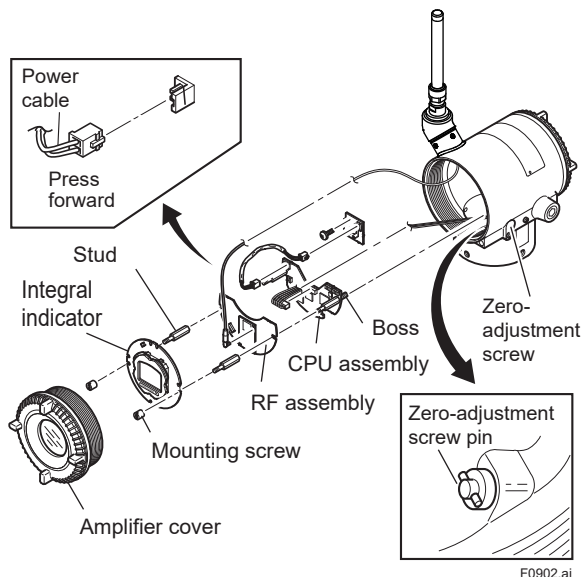

Figure 9.2 Removing and Attaching Integral indicator, RF assembly and CPU Assembly
This subsection describes the procedure for replacing an integral indicator. (See figure 9.2)
This subsection describes how to replace the RF assembly (see Figure 9.2).
This subsection describes how to replace the CPU assembly (see Figure 9.2).
- 2) Turn the zero-adjustment screw to the position as shown in Figure 9.2.
When doing this, lightly press the side of the CPU assembly connector and pull the cable connector to disengage (see the upper left of Figure 9.2).